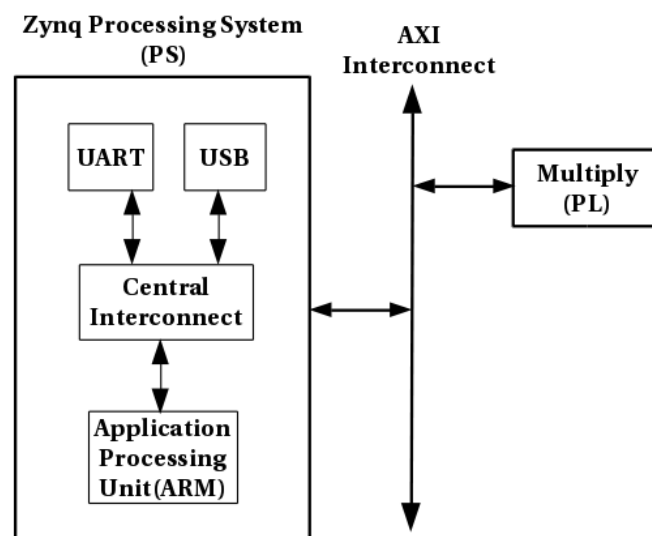

Figure 1: Zynq System Design
The microprocessor system you will build in this lab is depicted in Figure 1. In the previous lab a soft processor Microblaze was used, however in this lab you will use the ARM Cortex A9 processor in the Zynq Chip on ZYBO board. The Zynq chip is divided into Processing System(PS) and Programming Logic(PL). PS has a dual-core ARM Cortex-A9 processor and PL uses Xilinx 7 series FPGA logic cells. In place of the GPIO modules, utilized in the last lab, is a multiplication block, which represents the integer multiplication peripheral you will create. The UART in Figure 1 will be used to connect the USB-UART port(J11) on the ZYBO board to the workstation computer via a cable which will display the output of the software executing on the PS. The software you will develop in this lab will provide proof of operation for your multiplication peripheral.